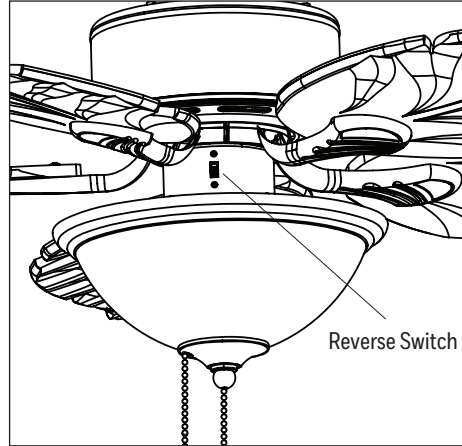

Figure 7.2
2. Use the reverse switch located on the switch housing to optimize your fan for seasonal performance. In warmer weather, push the reverse switch down which results in downward airflow creating a wind chill effect. In cooler weather, push the reverse switch up which results in upward airflow that will help move hot air of the ceiling (Figure 7.2).